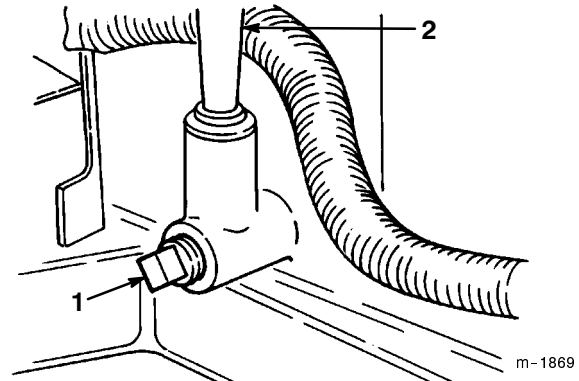

Figure 14
4. Place a pan below the oil dipstick/fill tube and remove the drain plug (Fig. 14).